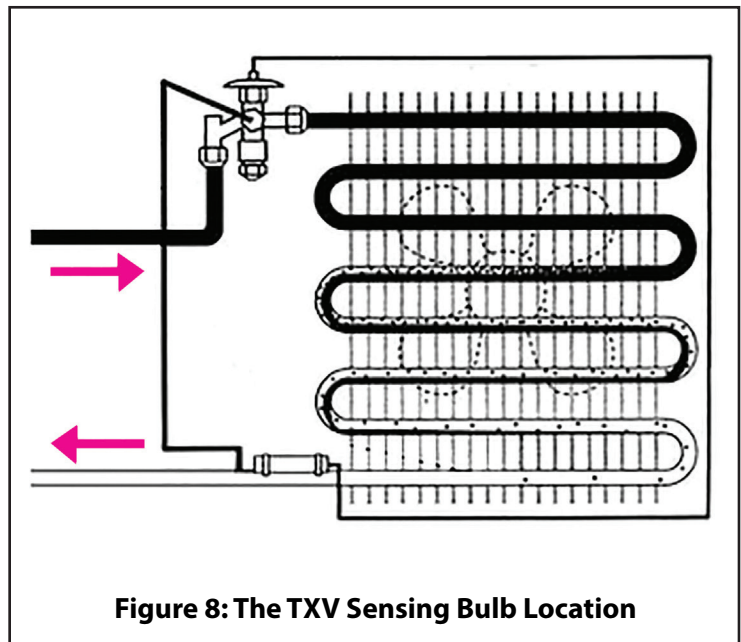

Figure 8: The TXV Sensing Bulb Location
10. The sensing bulb should be installed outside the coil case on a horizontal section of the suction line if possible (See Figure 8) and should be positioned between 10 o'clock and 2 o'clock as shown in Figure 9.